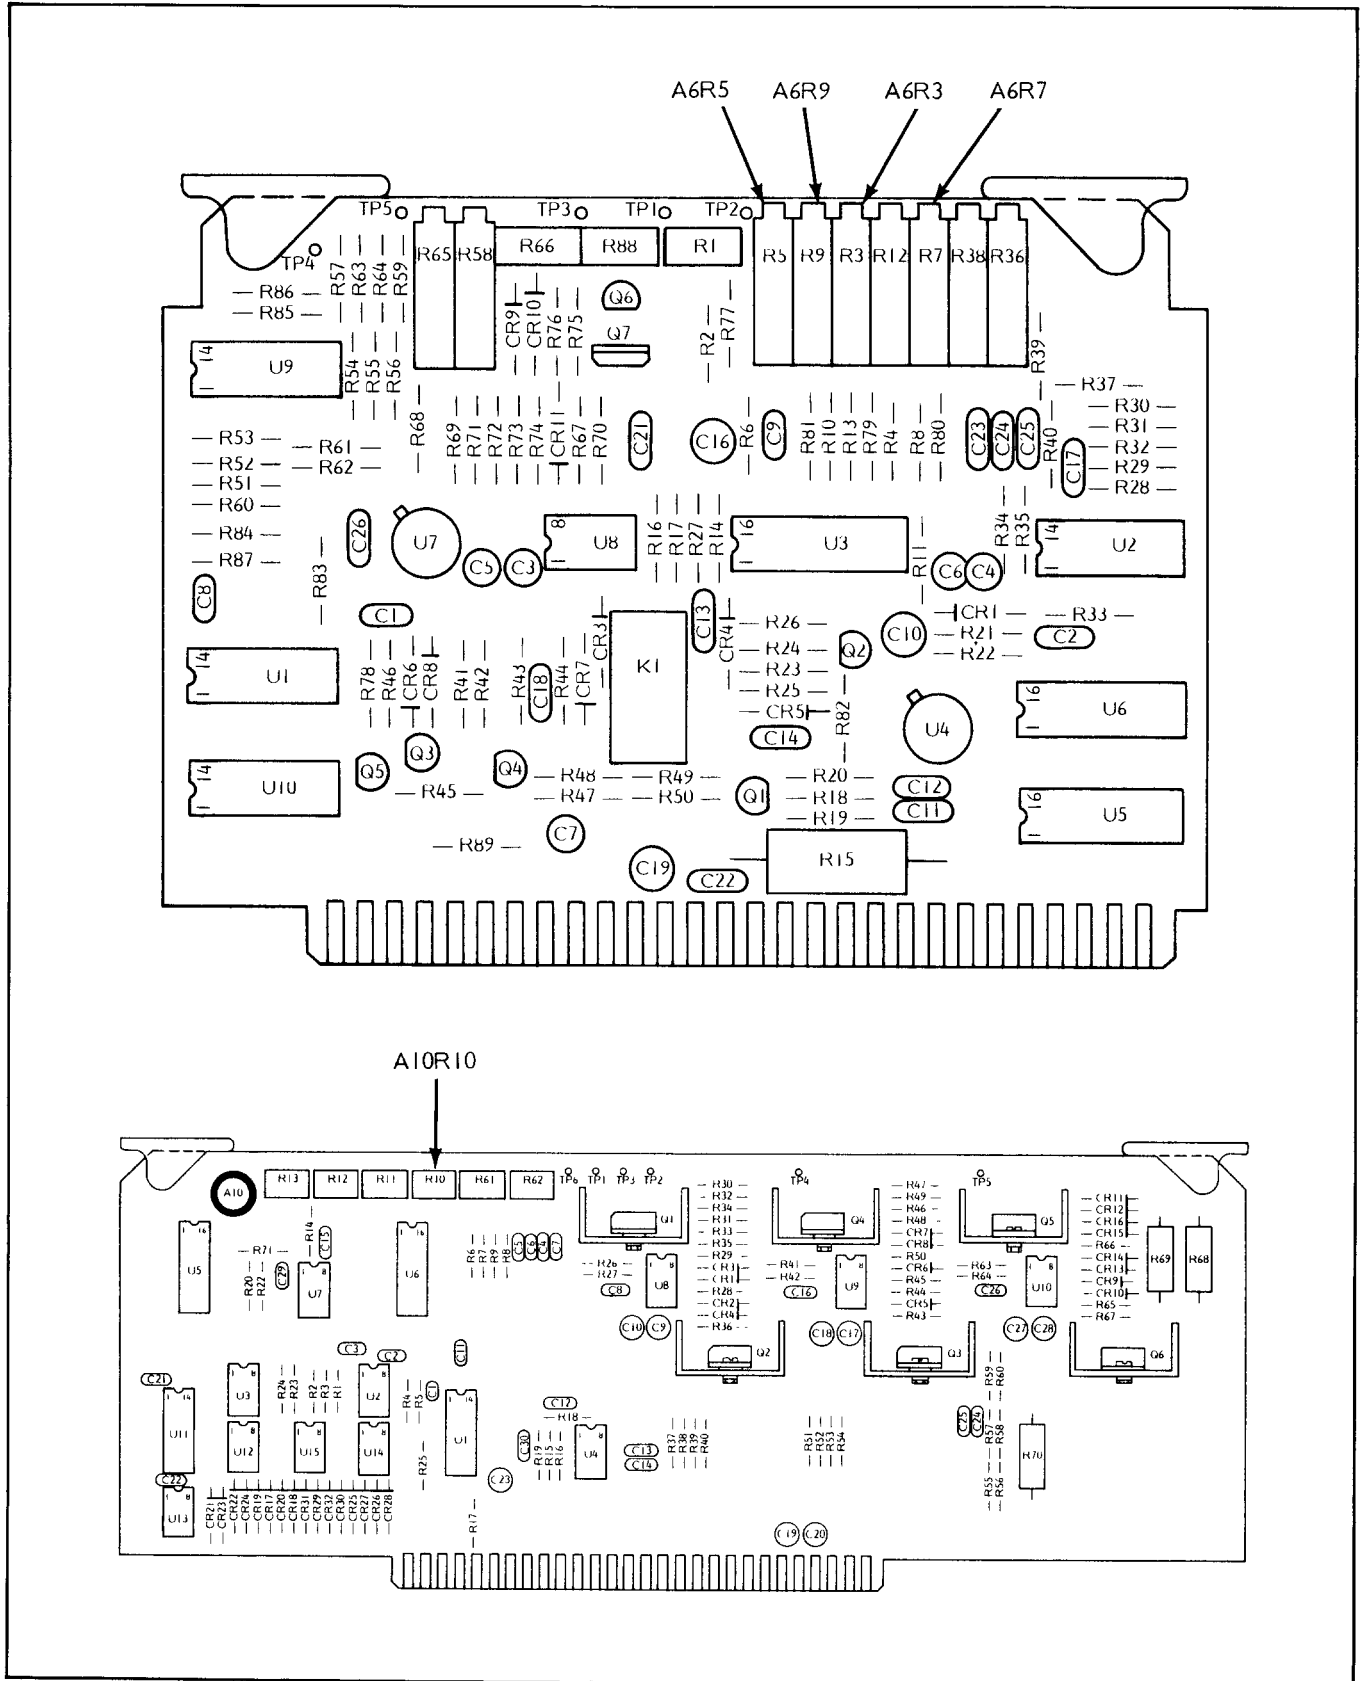

Figure 5-24. 2-8 GHz (Osc 1) Band Frequency Adjustments
7. Using care to prevent the frequency from going below 2.000 GHz, adjust A6R5 (Figure 5-24) for 2.050 GHz  $\pm 1$  MHz, as indicated on the counter.